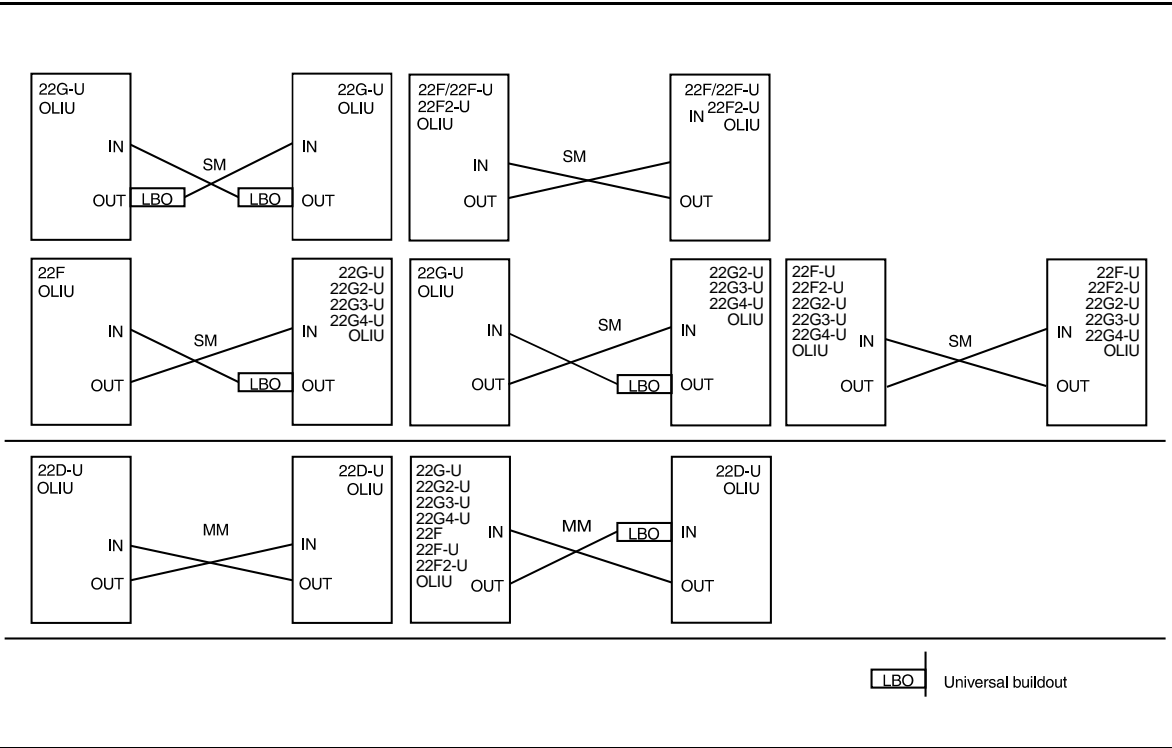

Figure 1 – DDM-2000 OC-3 to OC-3 Fiber Optic Connections and Line Buildouts
Steps 6 through 9 are used to measure optical power. Replace LBOs with 0 dB LBOs per Figures 1, 2, 3, 4, and/or 5. Connect the optical fiber transmit cable to the **OLI OUT** connection. Measure the optical power of the optical fiber receive cables at the other ends using an optical power meter.
6. At both ends of the optical span, replace the *ST*, FCPC, or SC LBOs with 0 dB LBOs per Figures 1, 2, 3, 4, and/or 5 [**DLP-552**].
9. Replace the lightguide buildout assemblies with the correct buildout assemblies per Figures 1, 2, 3, 4, and/or 5 and Tables C, D, E, F, G, H, I, J, K, L, M, and/or N [**DLP-552**].